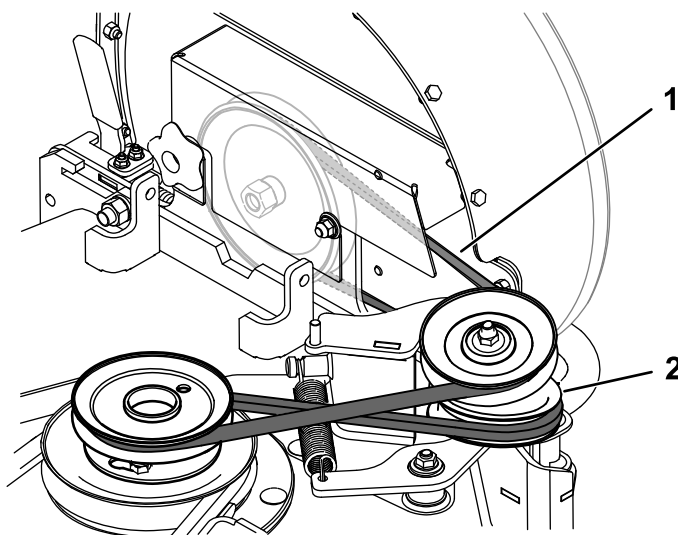

Figure 28
- Pull back on the spring-loaded idler pulley to relieve the belt tension (Figure 28).